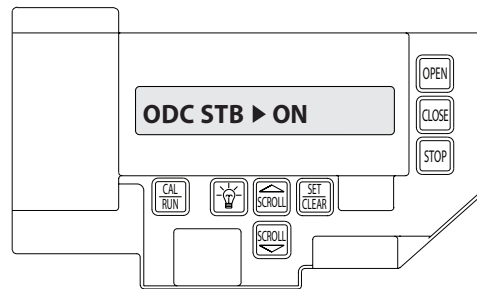

Figure 12
- 2) Press SCROLL  key (up or down) until display reads " ODC STB>ON" or " ODC STB>OFF" **Figure 12**.